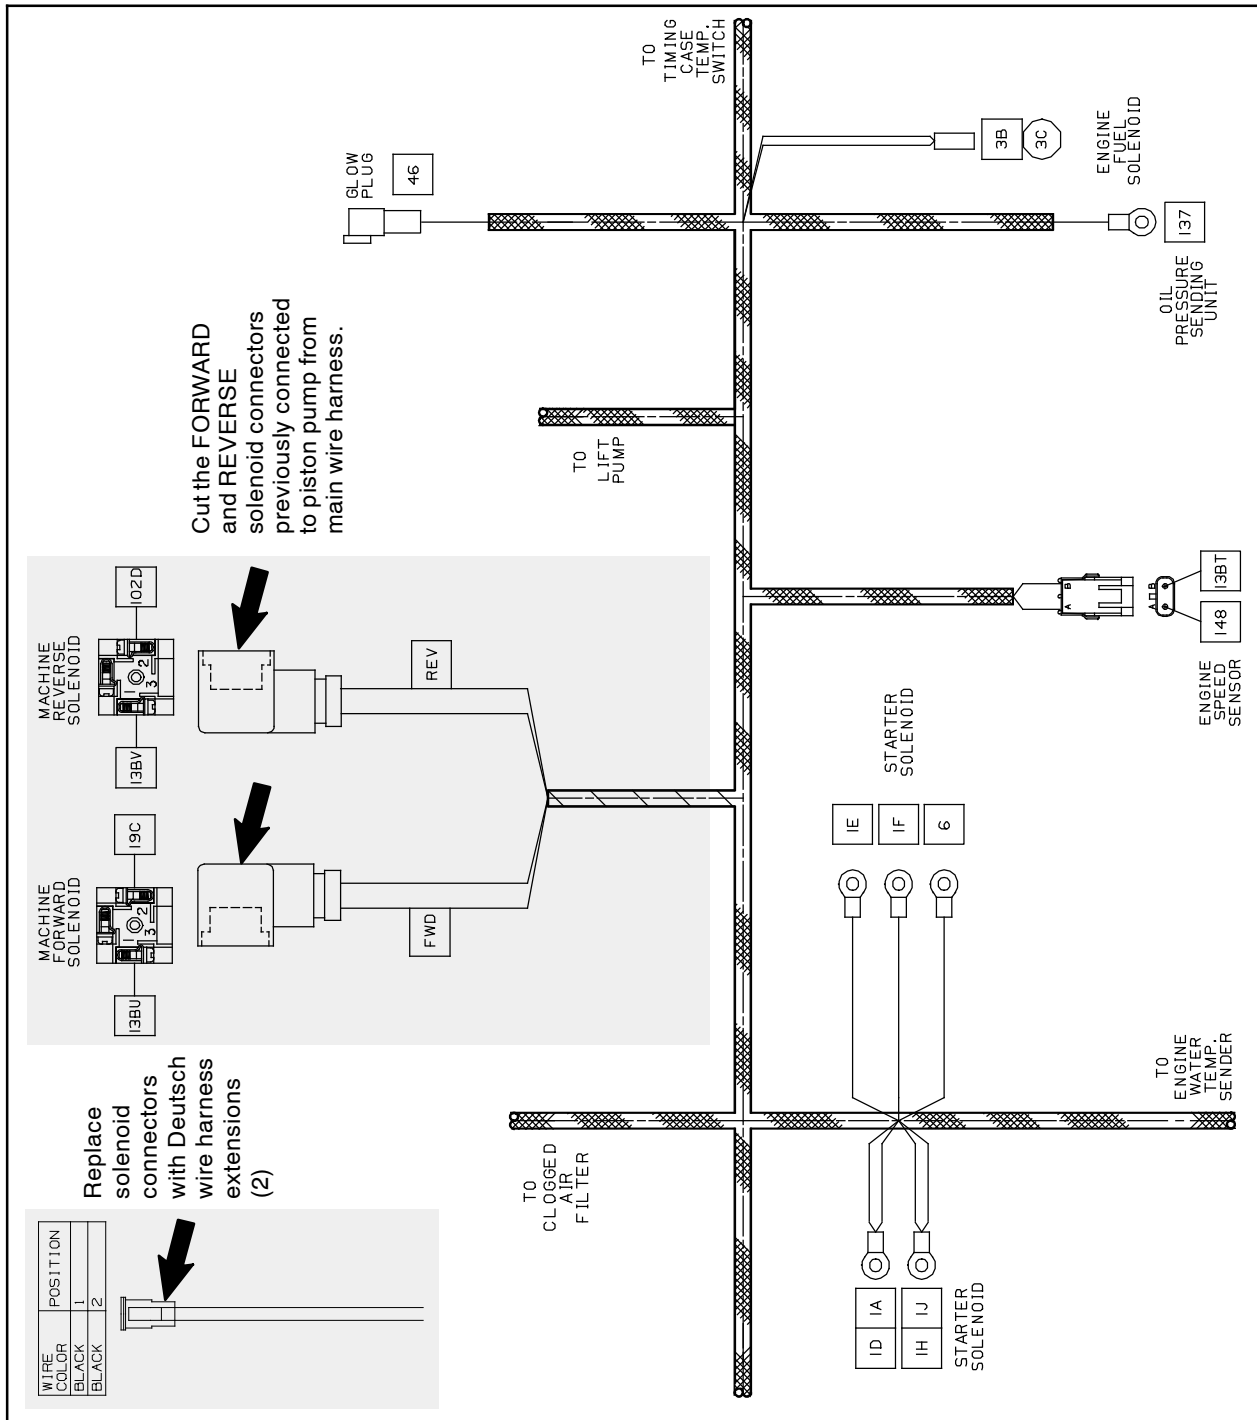

FIG. 2
9. Cut both DIN solenoid connectors previously connected to the piston pump from the main wire harness. (Fig. 2)
10. Use two splice connectors (3) to connect one Deutsch wire harness extension (2) to the FORWARD leads on the main wire harness. The 19 BRN wire should be connected to the black wire from pin 2 on the Deutsch wire harness extension. (Fig. 2)
11. Use two splice connectors (3) to connect the other Deutsch wire harness extension (2) to the REVERSE leads on the main wire harness. The 102 PUR wire should be connected to the black wire from pin 2 on the Deutsch wire harness extension. (Fig. 2)